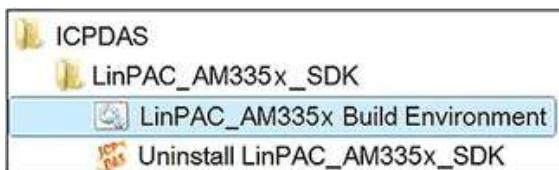

Figure 1.3.2-22. Click the ‘LinPAC_AM335x Build Environment’
- Type command: **chcp 65001**. (Refer to Figures 1.3.2-23 and 1.3.2-24)